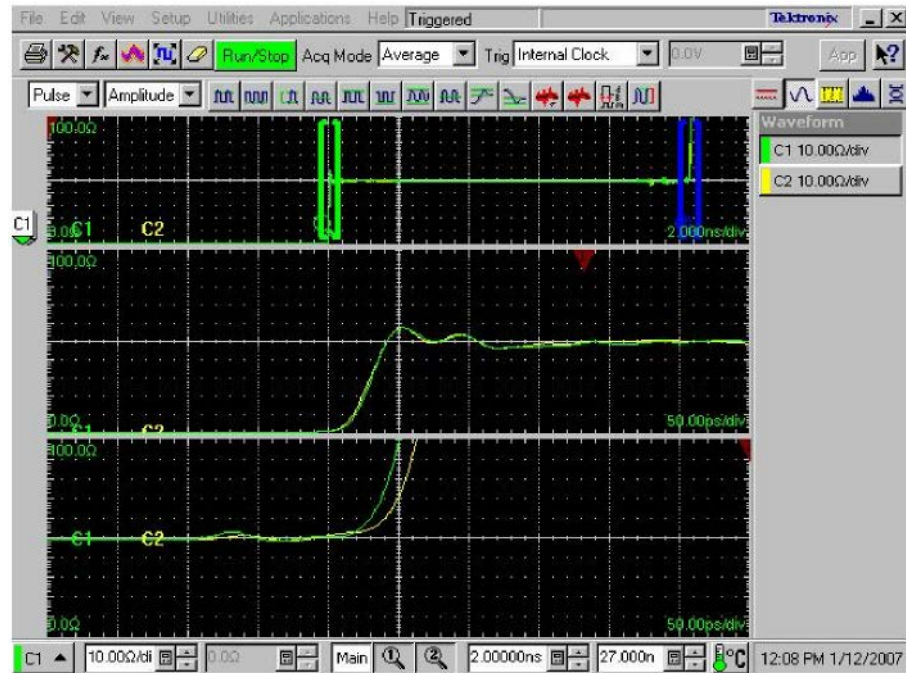

Figure 3: Magnifying the TDR step pulses and the waveforms at the open ends of the test fixture
- a. Press the **VIEW Mag1** button, and then use the **HORIZONTAL POSITION** knob and **HORIZONTAL SCALE** knob to display the TDR step pulses properly (see Figure 3).
- b. Press the **VIEW Mag2** button, and then use the **HORIZONTAL POSITION** knob and **HORIZONTAL SCALE** knob to display the waveforms at the open ends of the test fixture properly (see Figure 3).